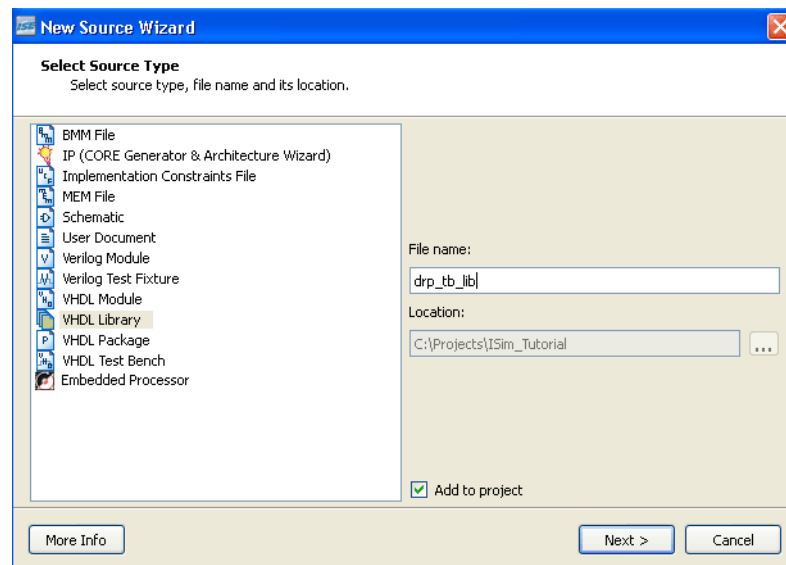

Figure 2-11: Select Source Type
3. Type `drp_tb_lib` for the VHDL library name. (Refer to Figure 2-11).